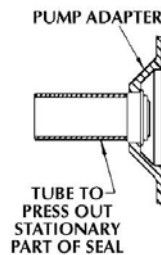

Figure 4
8. Drive stationary part of shaft seal out of seal plate using rigid tubing or pipe as shown in Figure 4.